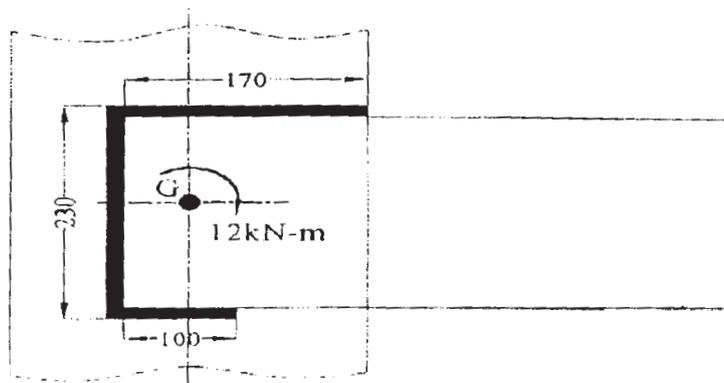

Fig.2
- b) A welded connection as shown in Fig.2, is subjected to a torsional moment of 12 kN-m about the centre of gravity of welds. If the permissible shear stress in weld deposit is 35 N/mm², calculate the throat and leg dimensions of weld. [12]